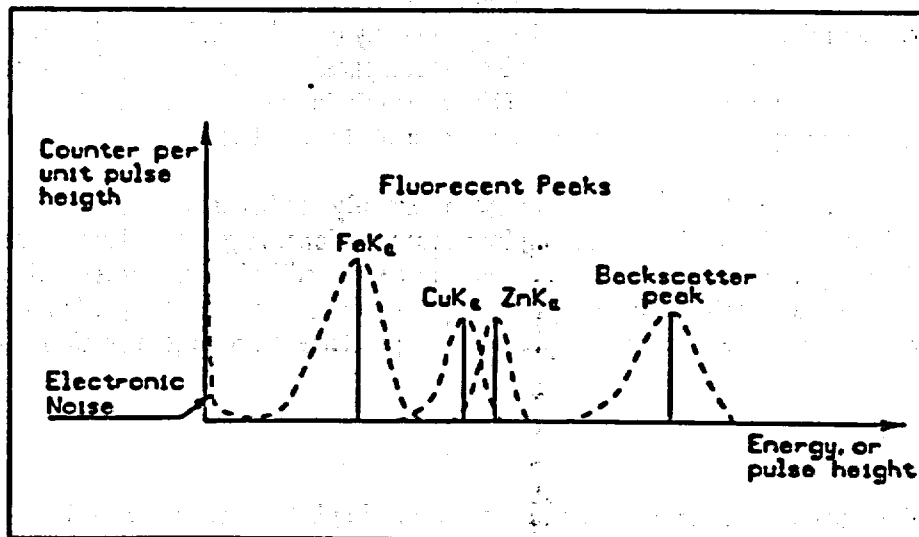

Figure 2.3 The detected spectrum.
Figure 2.3 shows schematically an X-ray spectrum corresponding to the X-ray lines of figure 2.1, as recorded by the X-MET 880. The actual spectrum is the sum of the overlapping pulse height distributions of Figure 2.1. Element channels or "windows" are regions (usually of width equal to one FWHM and centered on the peak maximum) selected from a peak either by the program or by the operator during instrument calibration. Notice that the microchannel 255 collects all pulses with an energy above the selected energy range. Thus most counts of the backscatter peak are usually found in this single microchannel. Notice also that to avoid the effects of electronic noise all channels below 35 (approx.) are zeroed out by the electronic. The detector high voltage is normally adjusted so that the practical measurement range is between channels 50 and 200. The energy scale is linear.
Spectral overlap occurs when two peaks are not completely resolved (as in figure 2.3). The degree of overlap depends on the energy separation of the peaks compared with the spectrometer resolution at that energy. The superior resolution of the Outokumpu Instruments detectors enables K_{α} peaks from elements of adjacent atomic number to be accurately measured even though their energy separation would be small.
The deconvoluted pulse counts in each element channel (=window) divided by the measurement time, are called the net intensities (I). (The gross counts in each element channel, before deconvolution, are shown in figure 2.3 as M_1 through M_n).